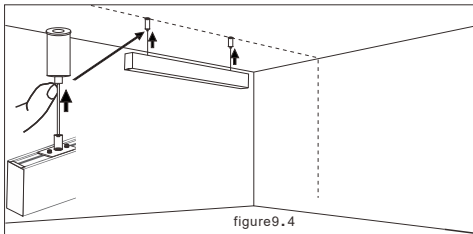

figure9.4
4. Lift the rail, insert the suspension wire into the buckles of the hoisting accessories, adjust the suspension wire to the appropriate height, and check the rail Whether the installation is firm and safe; (Figure 9.4)